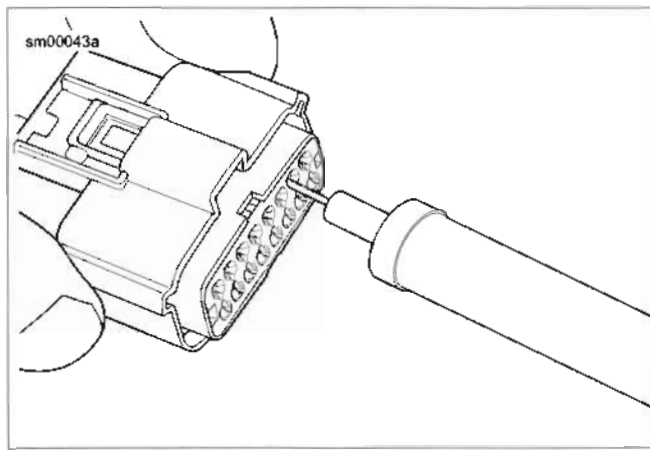

Figure A-50. Molex MX 150 Sealed Connector: Terminal Remover (HD-48114)
2. See Figure A-50. Insert TERMINAL REMOVER (Part No. HD-48114) into the pin hole next to the terminal until the tool bottoms.